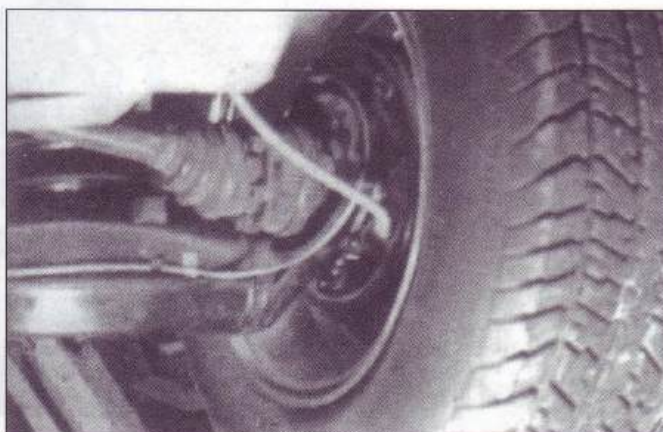

Fig.4d. Handbrake cable fitted to hub.
4. Fit rear ends of the cable to the hub (fig.4d). **Note:** There are different types of rear hub unit, some have the cable entry at the top and others at the bottom. There is also a disc brake version which requires a cable with suitable fittings which is available from us.